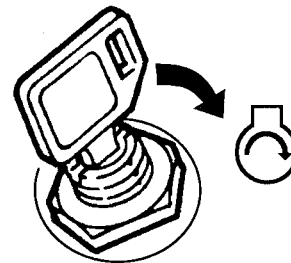

Figure 15
- A. ELECTRIC STARTING—Turn key clockwise to START  position (Fig. 15).